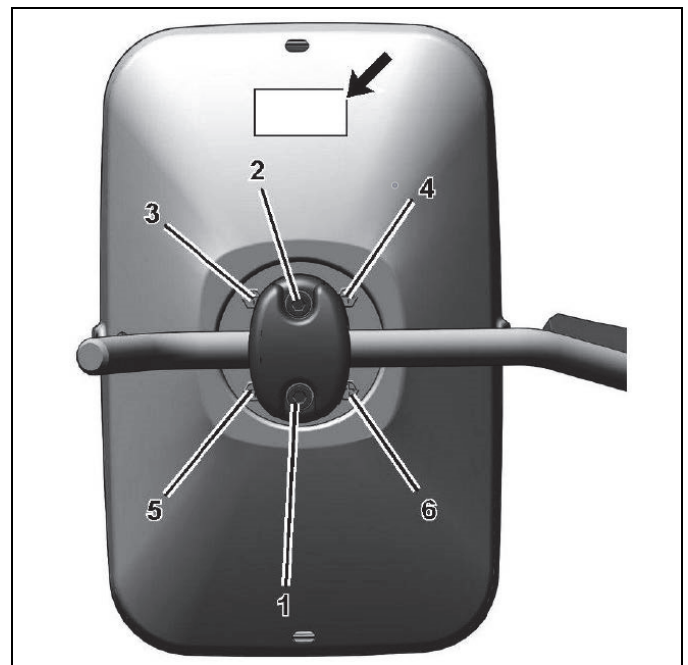

Figure 186 Mirrors-Tightening Sequence
After adjustment of the mirror angle, make sure that the CAT® logo is at the top. It may be necessary to periodically tighten the mirror mounting bolts. If the bolts are loose, tighten the bolts in the sequence shown in Figure 186. Tighten bolts (1) and (2) to $11 \pm 2 \text{ N}\cdot\text{m}$ (8.1 ± 1.5 lb ft). Tighten the bolts (3) through (6) to $2 \pm 0.4 \text{ N}\cdot\text{m}$ (1.5 ± 0.3 lb ft).